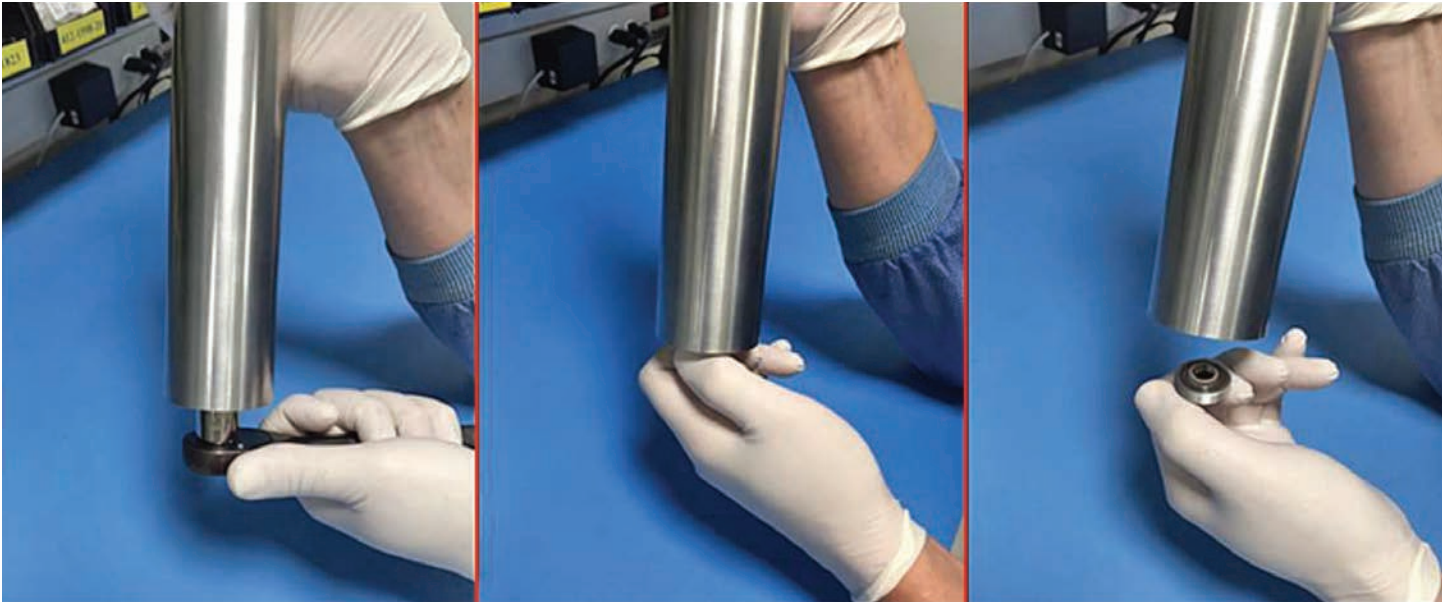

Figure 54: Removing mirror end cap assembly from the absorption cell
- Using a $5/8$ " socket wrench to loosen the hex head of the mirror assembly, gently unscrew the mirror assembly from the bottom of the absorption cell. While *Figure 54* below shows this procedure for a dismantled cell, it is **NOT** necessary to dismantle the optical absorption cell assembly to remove the mirror.